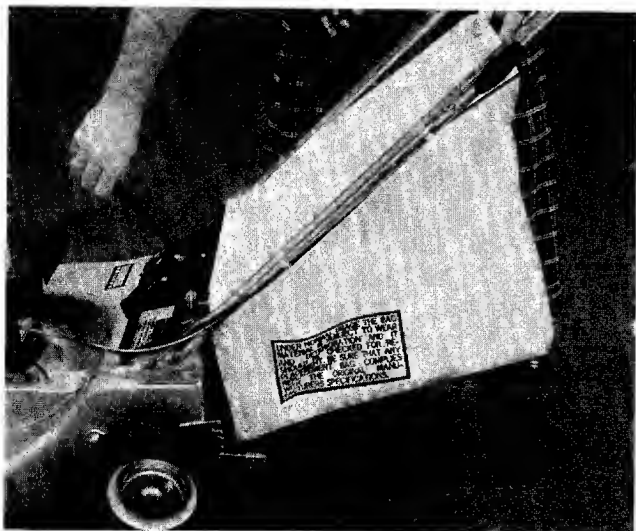

FIGURE 15.
1. Attach the grass catcher frame to the front of the adapter as shown in figure 15.